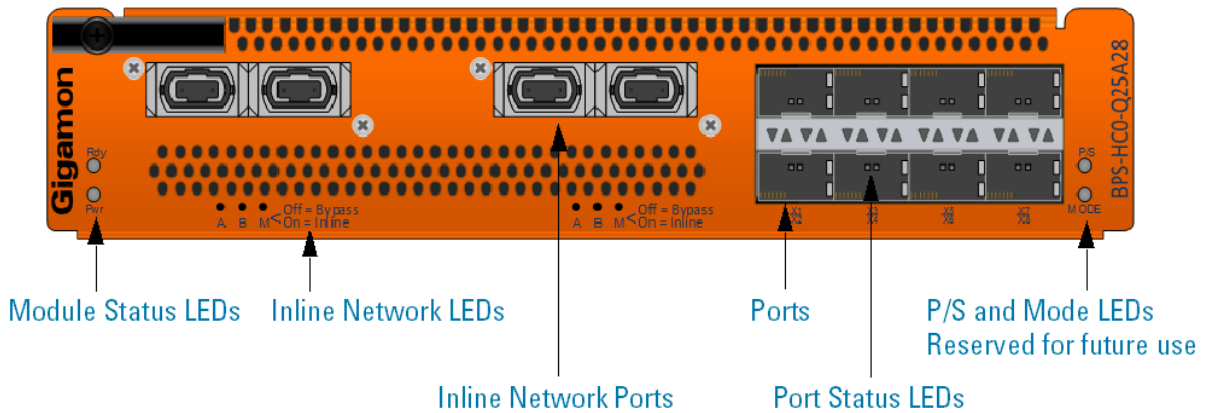

Figure 16: Bypass Combo Module BPS-HC0-Q25A28
- Bypass Combo Module with two SR4 (50/125µm multimode) inline network port pairs and eight regular SFP+ port cages (BPS-HC0-Q25A28). The module also supports 4x10Gb breakout mode which when configured will support eight inline network port pairs. Refer to Figure 16: Bypass Combo Module BPS-HC0-Q25A28.